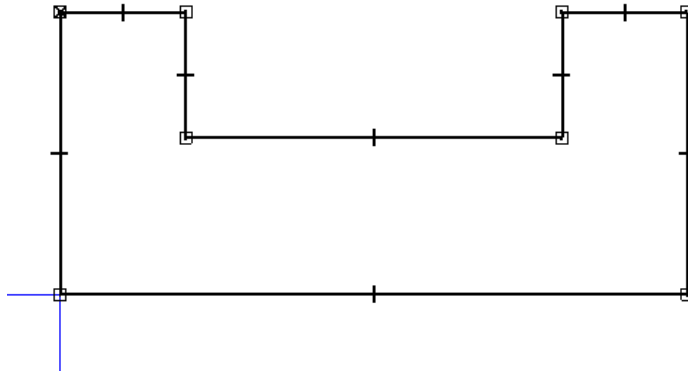

Figure 2-26 Sketch after drawing lines
15. Choose the **Select Tool** button to exit the **Line** tool. The sketch after drawing the lines is shown in Figure 2-26.